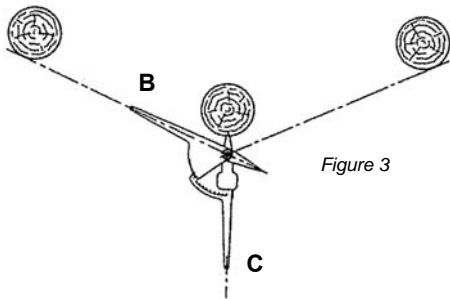

Figure 3
- Without disturbing arm B swing arm C away from the pole until the bisector index (located just beyond the 40 foot mark on the pull scale) points to the pull reading (obtained in (a) above) as read on the corner bisector scale on arm B (figure 3).